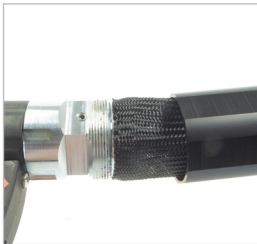

Figure 15
- ▶ Pull the braided protection hose (Pos. 1) over the swivel joint of the WEH® Fueling nozzle (Figure 15).